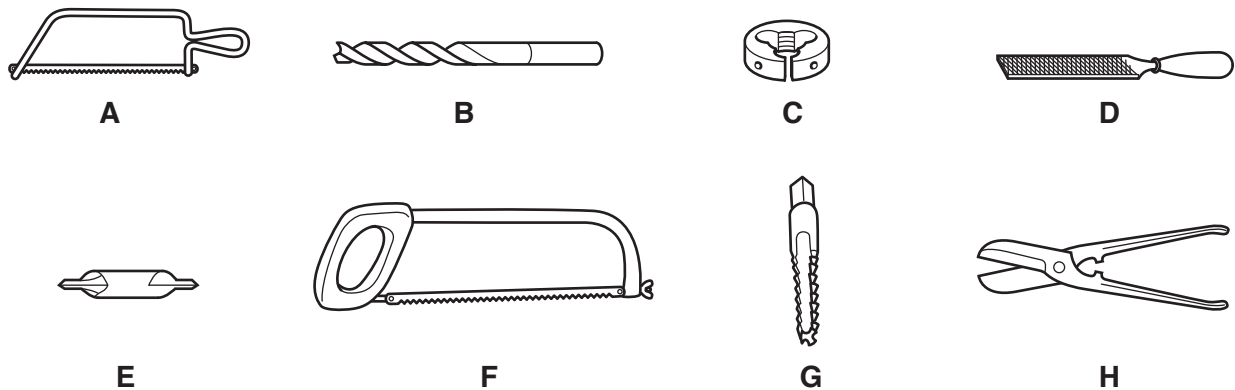

Fig. 3
- 5 Fig. 3 shows a variety of tools used in a school workshop.
Complete the table below to show which tool from Fig. 3 would be used for each of the processes listed.